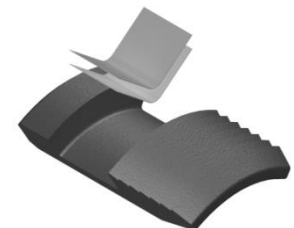

Fig. 3
**NOTE7:** Install two (2ea) springs per slip (Fig. 3).